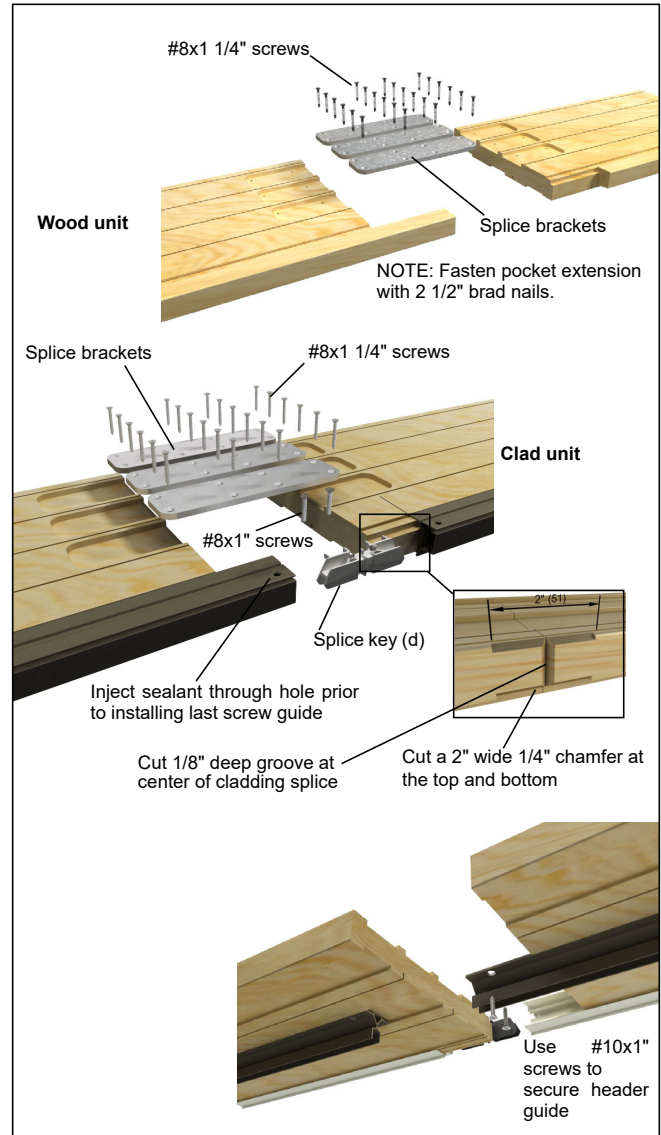

Figure 15
NOTE: For units with multiple head jamb sections, assemble the head jamb sections at the splice using supplied screws, brackets, and keys. Apply 3/16" (5) bead of sealant on all wood joints prior to assembly. For clad units, notch a 1/8" (3) deep groove at the head jamb for proper sealant flow prior to injecting sealant into clad splice key. See figure 15.